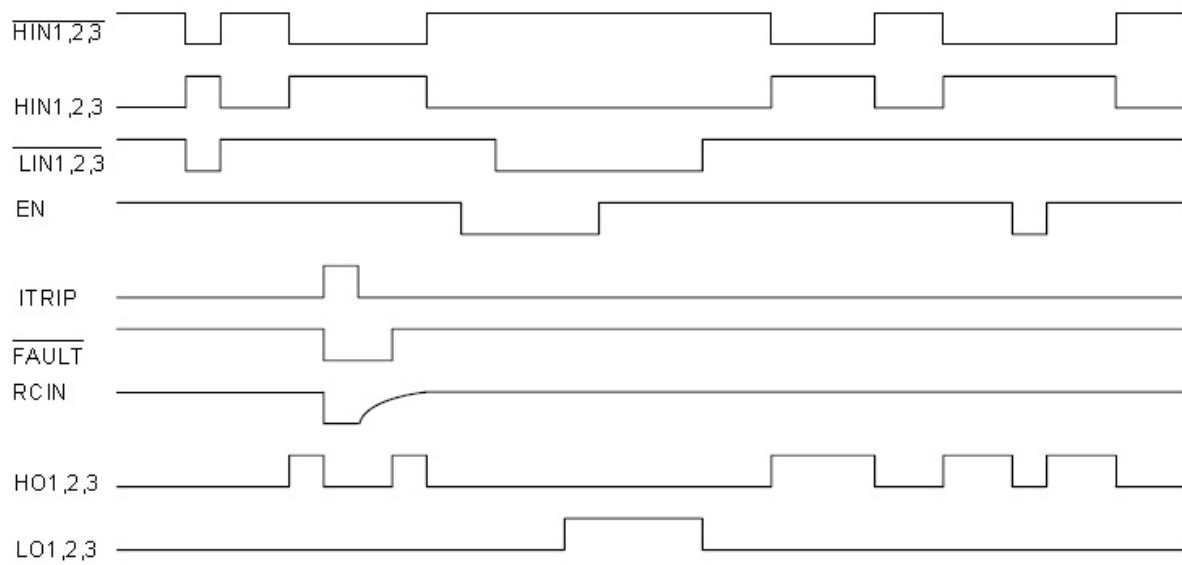

Fig. 1. Input/Output Timing Diagram
- The input/output logic timing diagram is shown in Fig. 1.